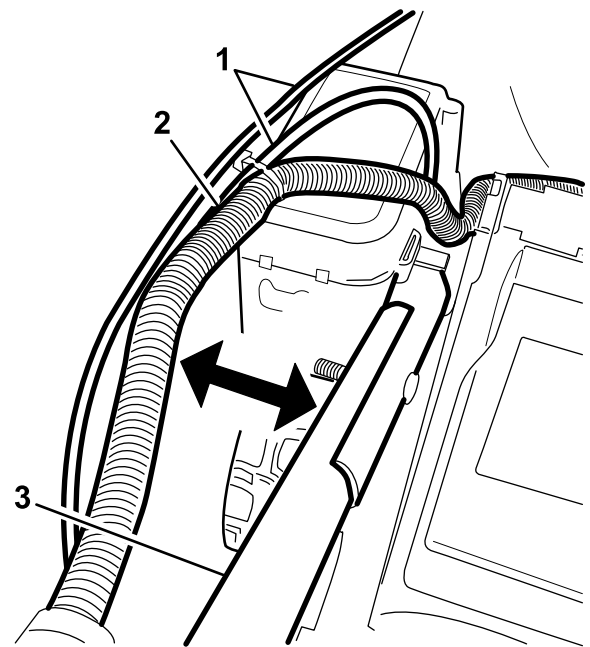

Figure 4
**Important:** Route the cables to the outside of the handle as you unfold the handle (Figure 4).